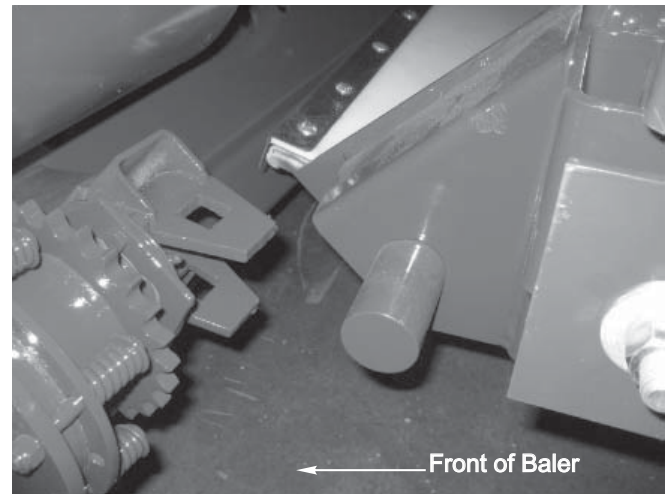

Figure 1-2 Aligning Pickup with Baler
2. Raise tongue of baler just high enough to move the pickup underneath. Line up pickup locking claw to baler pickup pins (see Figure 1-2). Push pickup so the locking claw has surrounded the pin. Place pickup pin through the pickup claw to lock the pickup into place. This needs to be done to each side of the baler. You may have to lower or raise the tongue so the wedge drops freely into place securing the pickup to the baler. Insert roll pin in bottom of pickup pivot wedge so the wedge is secure.